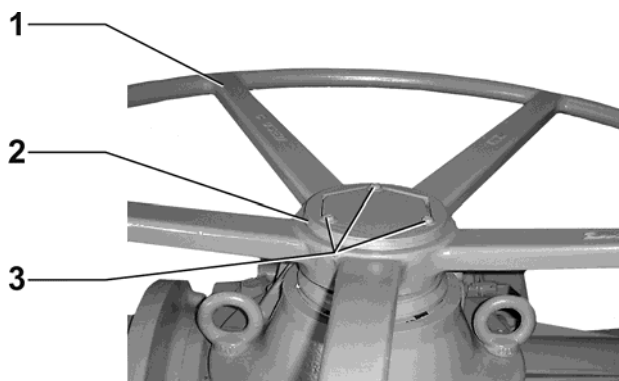

Figure 6.2: Handwheel - assembled state
- Fit the handwheel (1) to the hexagonal hub with the rim on the top of the actuator.
- Add shims (2) so that they are flush with the top of hub.
- Fasten handwheel including shims with the attached screws and washers (3) (see figure 6.2).